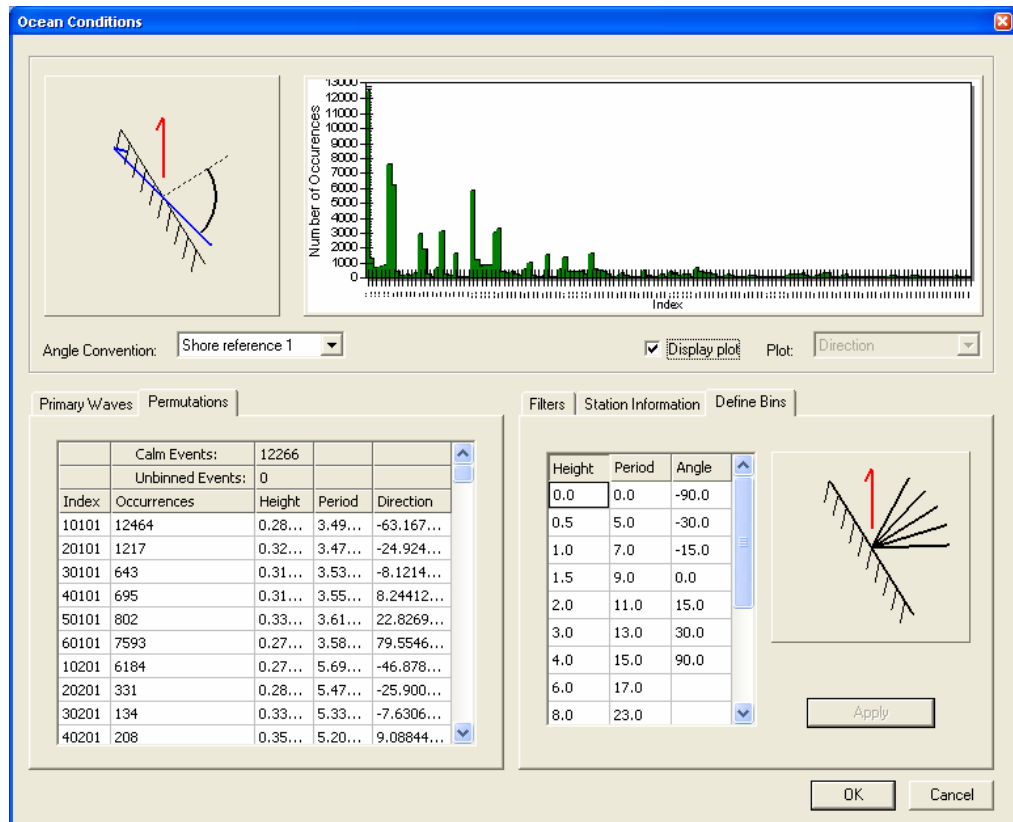

Figure 24-9. Wave bin values and frequency bar plot.
- Turn on the *Display plot* option. The dialog should be similar to Figure 24-9.